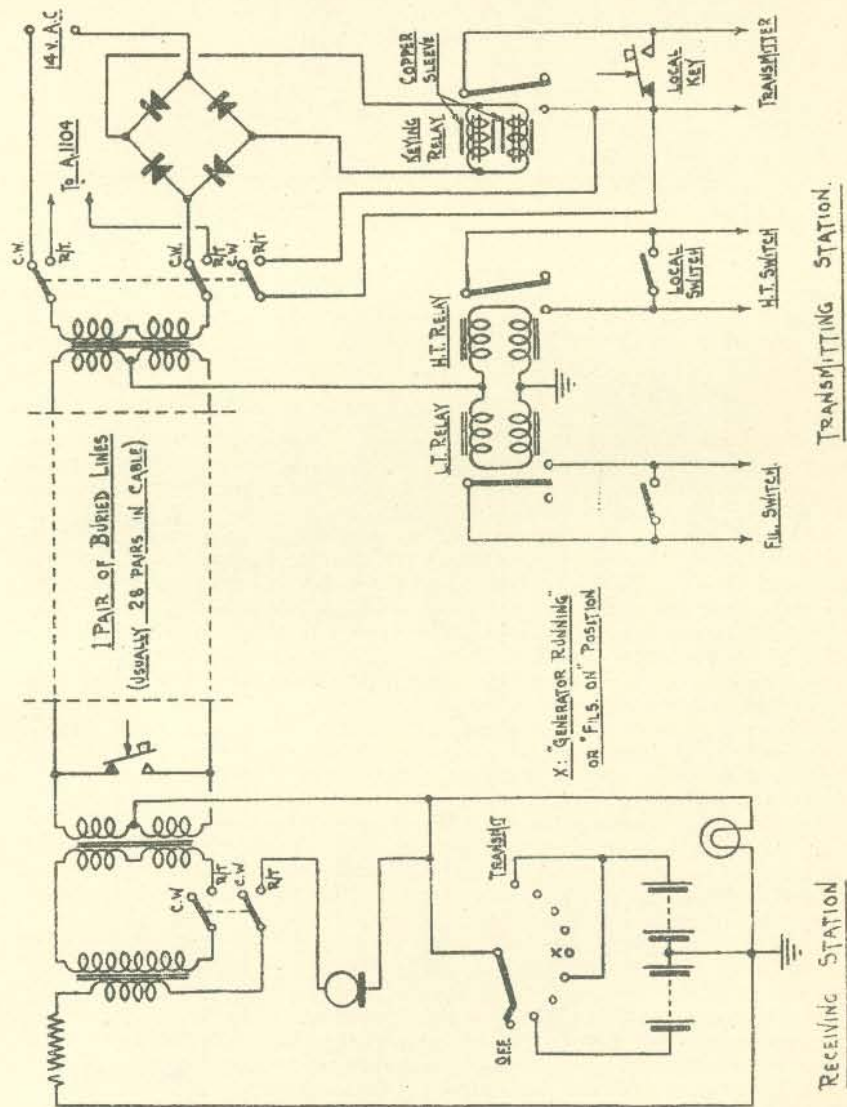

FIG. 89.—A.C. type remote controls.
2. **Operation** (see fig. 89).—(i) *Switching on.*—Operating the switch at the receiving end, contact from battery negative is made momentarily to centre part of repeater coil at controlling end—equal currents established through lines A and B to centre of repeater coil at controlled end, via H.T. and L.T. switching relays to earth, thence to earthed positive of 12-volt supply. This direction of current switches both relays *off*. The next stud is connected to positive of battery, and thus a reversal of current occurs on passing over the stud, switching the relays *on*. In the actual "generator running" or "files on" position, the supply is broken, the switch resting upon an insulated stud. In this position the H.T. relay breaks contact due to its "space" spring bias, but the filament relay, which is neutrally biased, stays *on*. In the "transmit" position, a continuous "switching on" current holds both relays *on*. The momentary reverse current first mentioned (when switch passes negative battery stud) is to ensure that all relays open on switching off. This particularly applies to filament relay, which is biased neutral.